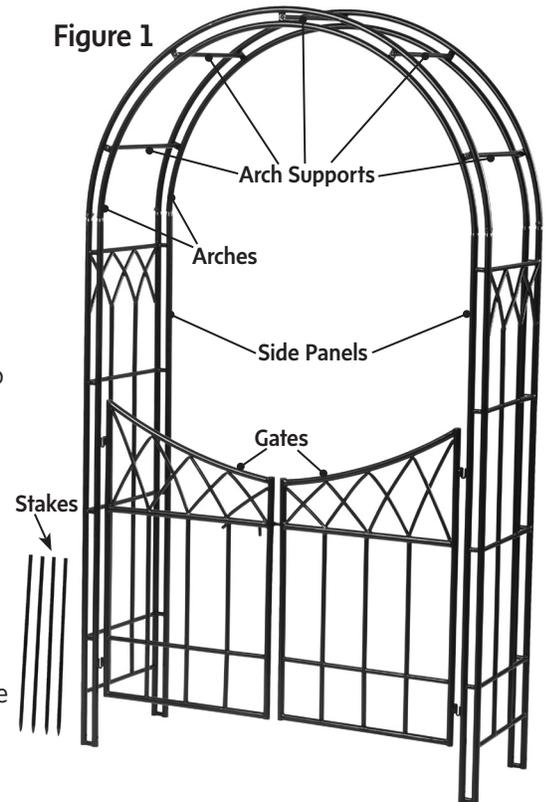

Figure 2
Step 1. Take an Arch Support and line up the end of it with one of the holes in an Arch. Place a Short Bolt through the hole in the Arch, and use the Allen Wrench to screw it into the Arch Support (Figure 2). Repeat to attach the remaining four Arch Supports to the Arch.
Step 2. Line up the holes in the other Arch with the open ends of the Arch Supports. Insert Short Bolts through the holes in the Arch and use the Allen Wrench to screw them into the Arch Supports (Figure 2).